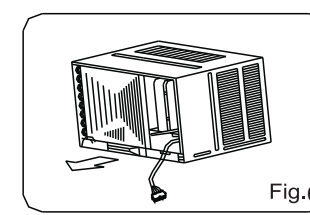

Fig. 6
2. Grasp the handle on the chassis and carefully slide the air conditioner out of the cabinet (See Fig.6).